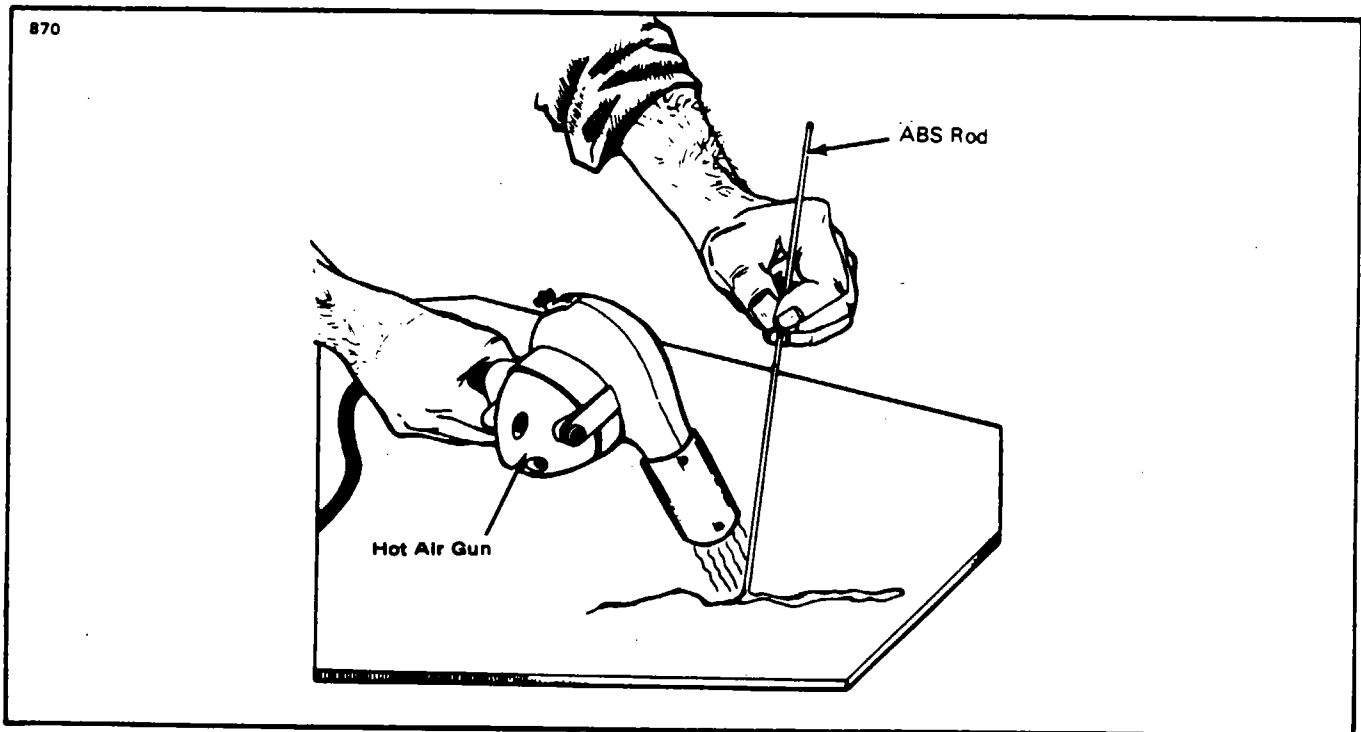

Figure 4-26. Welding Repair Method
10. This welding method requires a hot air gun and ABS rods. To weld, the gun should be held to direct the flow of hot air into the fusion (repair) zone, heating the damaged area and rod simultaneously. The gun should be moved continuously in a fanning motion to prevent discoloration of the material. Pressure must be maintained on the rod to insure good adhesion. (Refer to Figure 4-26.)